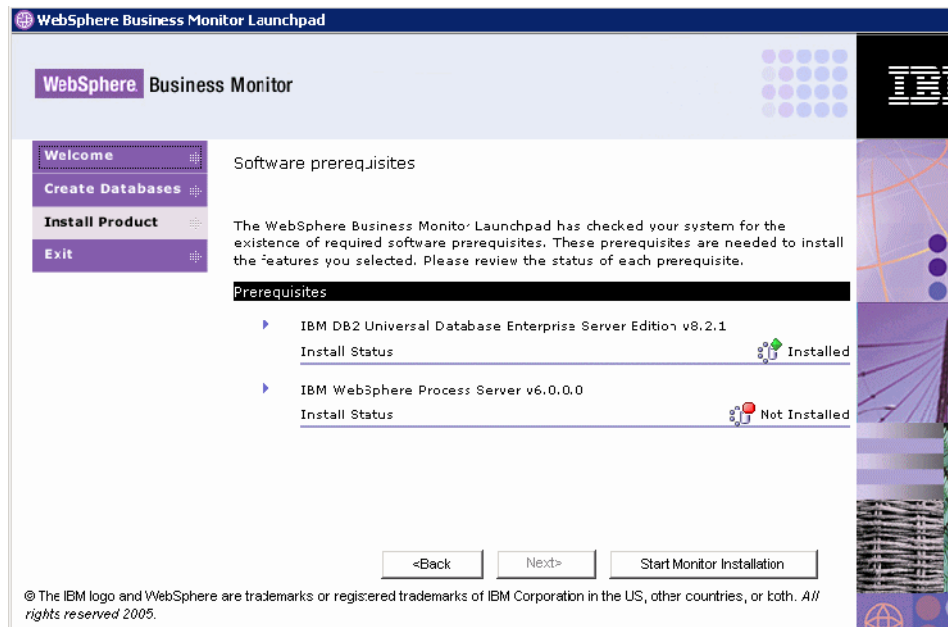

Figure B-8 Monitor Server installation: Process Server pre-requisites
- ▶ The Launchpad verifies the pre-requisite for WebSphere Process Server v6.0.0.0 and because it is not installed yet, prompts you to install it before proceeding with the Monitor Server installation (Figure B-8).